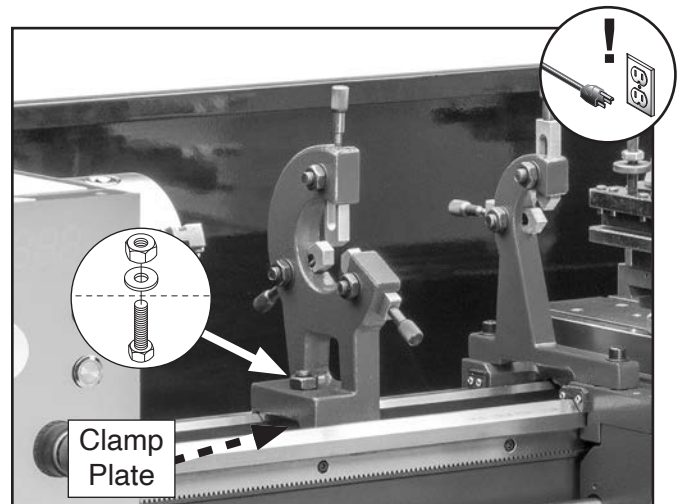

Figure 60. Steady rest clamping components.
2. Thoroughly clean all mating surfaces, then place steady rest base on bedways and secure clamp plate with hex nut, flat washer, and clamp screw (see **Figure 60**).